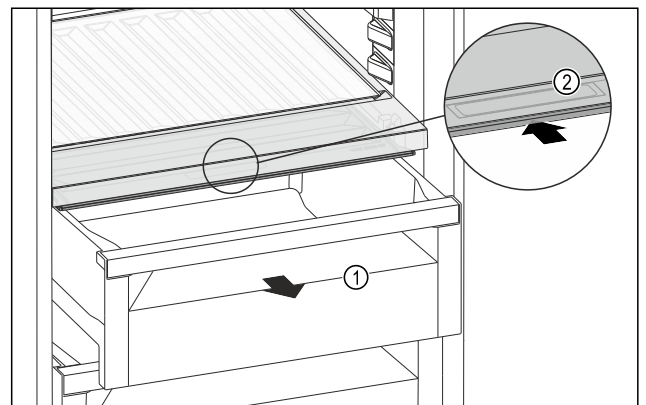

Fig. 149
- ▶ Pull out the drawer Fig. 149 (1).
- ▶ Grasp the recessed grip Fig. 149 (2) on the compartment lid and push the compartment lid backwards at the same time.